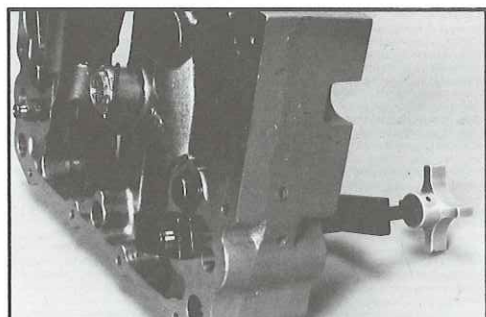

Fig. 24
2. Place the hole in the Jacobs slave piston tool over the slave piston adjusting screw (Fig. 24).